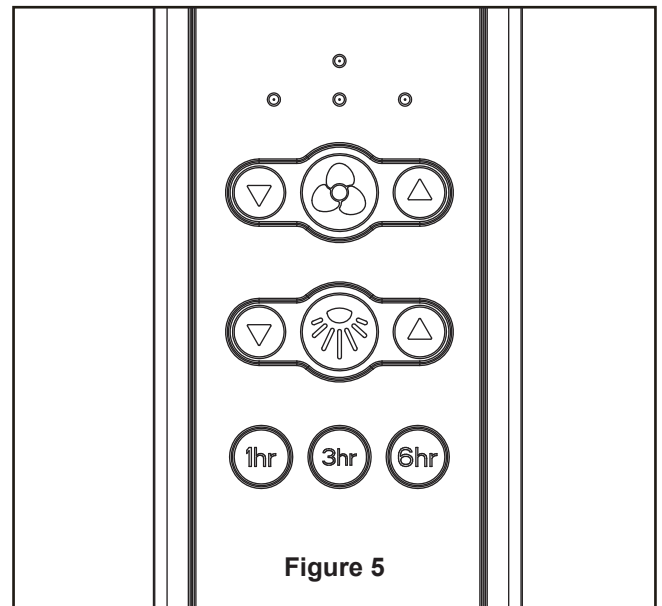

Figure 5
4. After connections have been made, the wires should be spread apart with the grounded conductor and the equipment-grounding conductor on one side of the outlet box and the ungrounded conductor on the other side of the outlet box, then turn leads upward and carefully push leads into the outlet box, with the white and green leads to one side of the box and the black leads to the other side. (Figure 5)
5. Remote functions: (Figure 5)